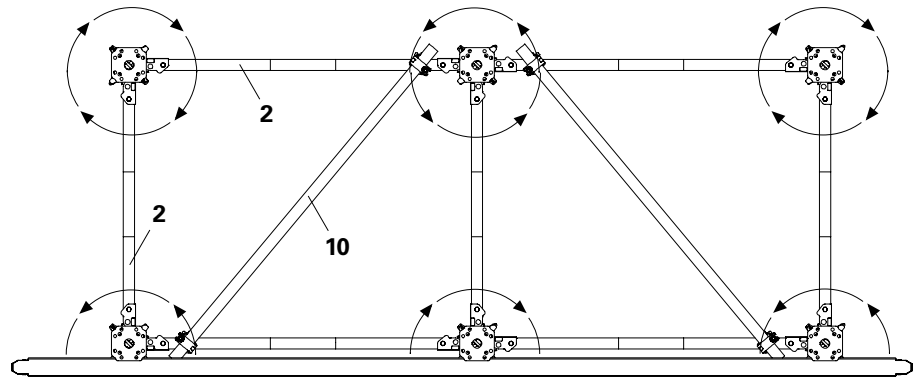

Fig. A3.06
- The assemblies are to be braced with diagonally-positioned scaffold tubes \varnothing 48.3 (**10**) at around half the tower height. (Fig. A3.06)